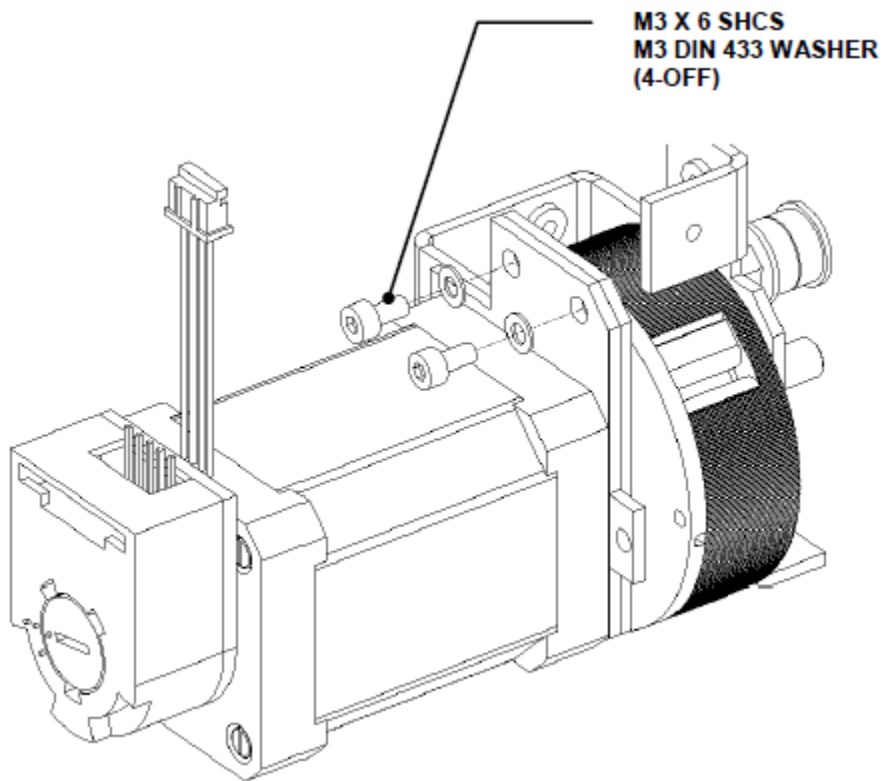

Figure Z-17: Mounting Bracket
1. Remove the mounting bracket (Figure Z-17).